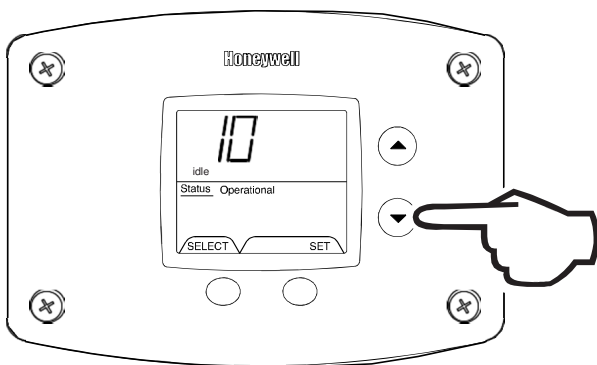

Fig. 64 No error code shown for code index 10
2. Press the "Temperature Down" button to select the error code index, starting with the most recent error code '10' (Fig. 64).